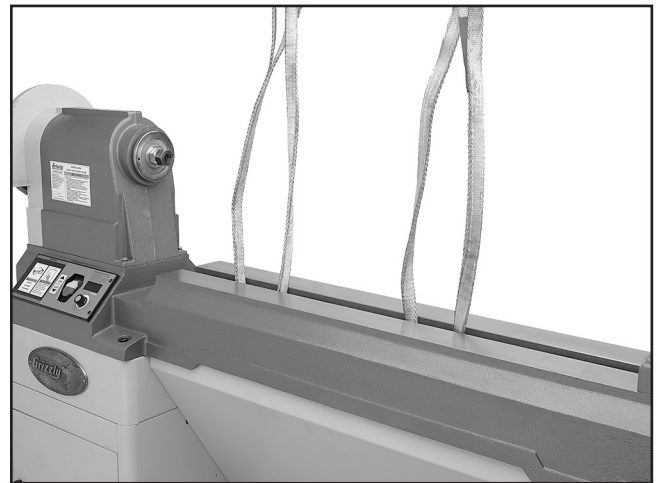

Figure 5. Placing the lathe bed on the stand.
2. Using a forklift, lift the lathe bed onto the stand by placing the lifting straps through the center of the bed and around the casting webs, as shown in **Figure 5**. The strap closest to the headstock should be wrapped around the forklift forks a few times to compensate for the heavier weight load on that side.